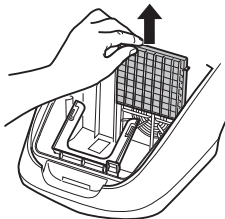

Fig. 23
2. Remove the filter holder together with the protective motor filter (Fig. 23).